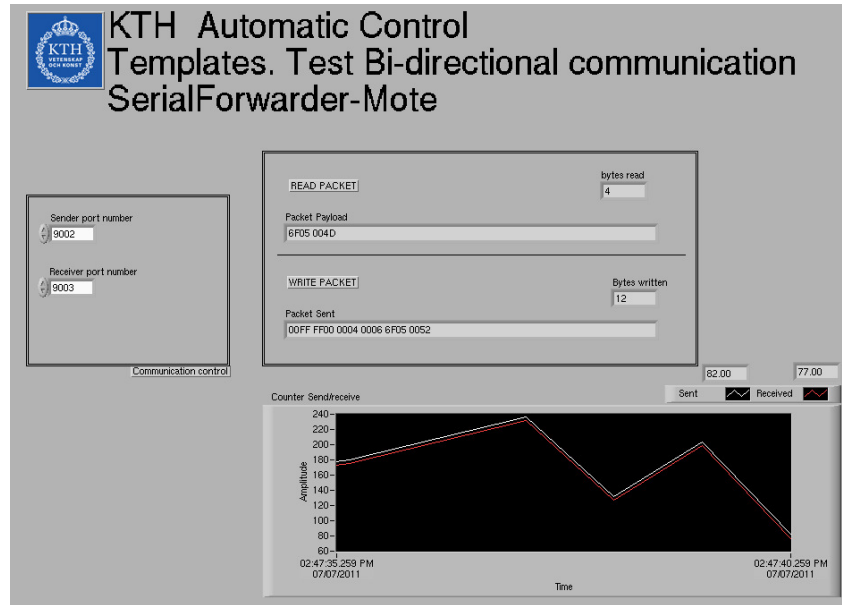

Figure 2.14: Front panel TestHIL
**PC: TestHIL.vi** Figure 2.14 shows the front panel of the TestHIL template. In the *Communication control panel* we can configure the ports for the sender and receiver TCP/IP servers. The rest of the front panel is the same as the previous ones.